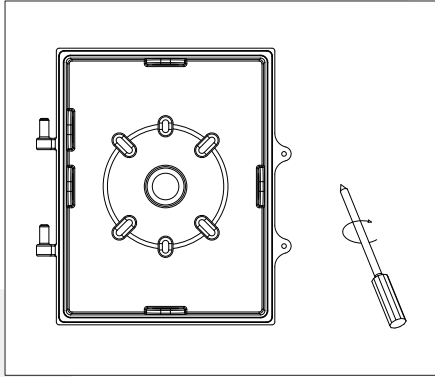

Figure 9
Step 6: Align the holes on the lamp base with the holes on the wall, and tighten the screws(Figure 9).